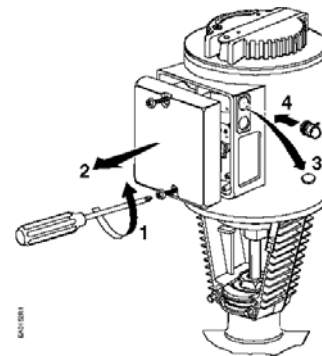

Figure 22.
- Wiring for SKB/C62U is shown in Figures 22 and 23.